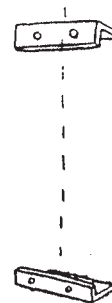
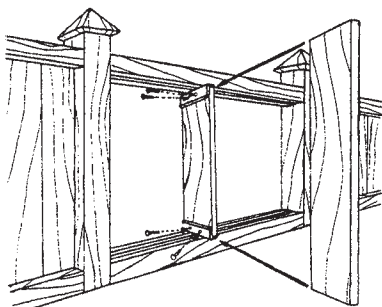

Figure 4A
Figure 5
NOTE: When fastening the brackets onto the rails, ensure that the side of the bracket that have two end position holes are facing the same direction (*Figure 4A*).
STEP 4 Taking 1 piece of 1 x 6 flat board, cut to length (1/16th to 1/8th inches shorter) than the distance of the opposing brackets. Fit the boards onto the brackets, and secure with the mounting screws supplied (#8, 5/8 inch) (*Figure 5*). Ensure the mounting bracket screw slots are facing inside your enclosed area (*Figure 4A*).